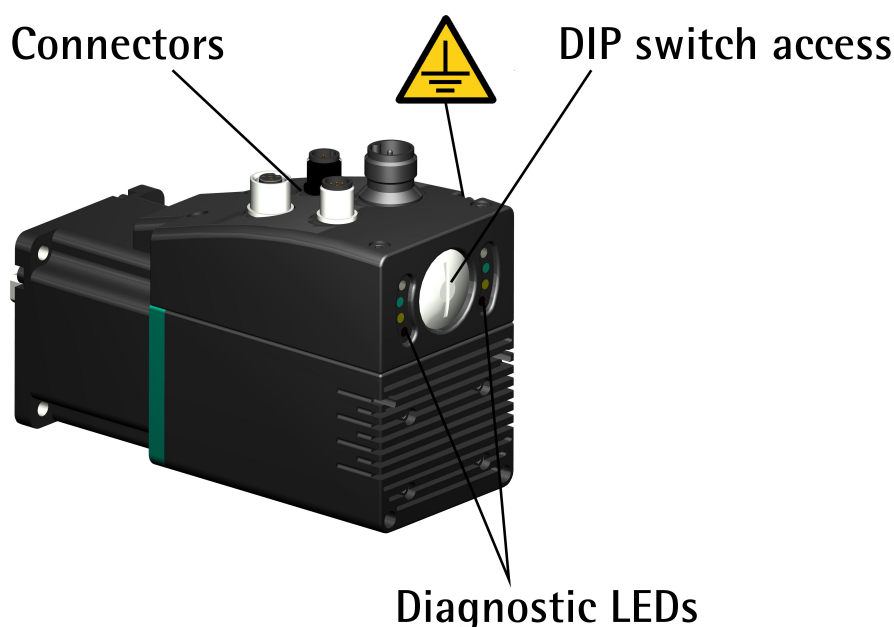
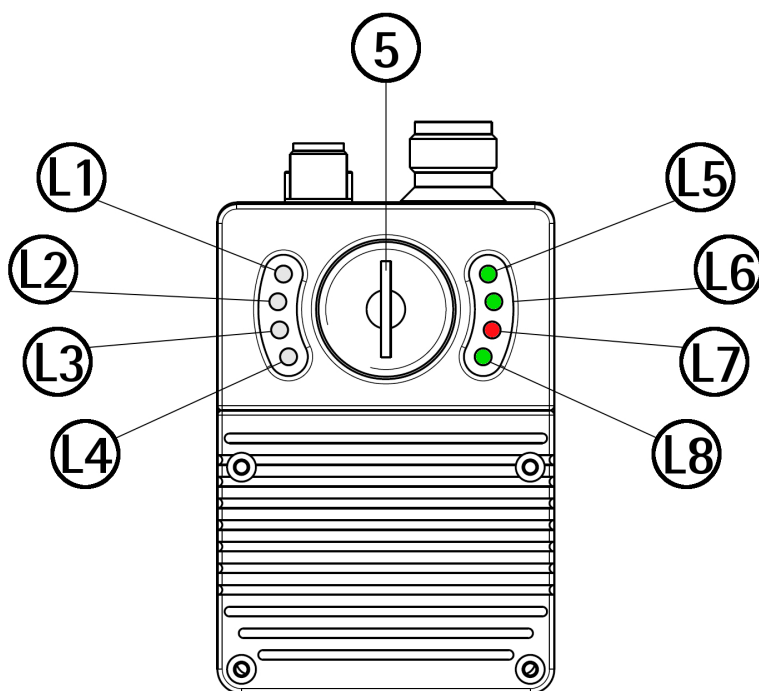

Figure 4: Connectors, diagnostic LEDs and DIP switches
Figure 6: Diagnostic LEDs
4.2 Connectors (Figure 4 and Figure 5)
4.3 Diagnostic LEDs (Figure 4 and Figure 6)
4.4 Rotary / DIP switches (Figure 4 and Figure 6)
To access the rotary / DIP switches unscrew and pull out the screw plug **5** (Figure 6) in the back of the enclosure. Be careful to replace the screw plug at the end of the operation.